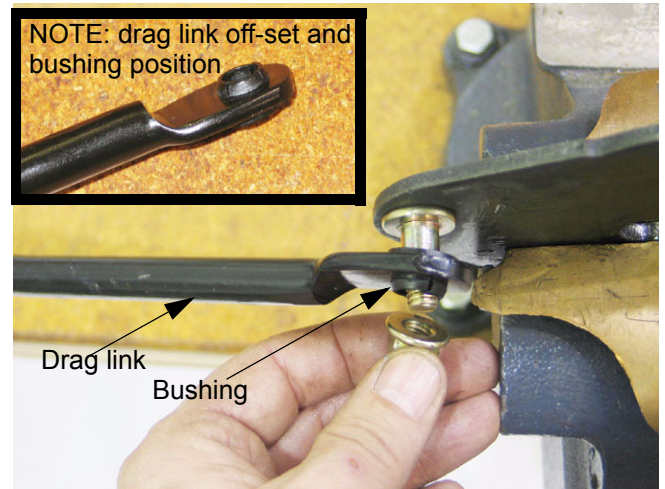

Figure 15.15
15.15. After removal, the steering gear can be held in a bench vise to remove the drag link using a 1/2" wrench. See Figure 15.15.